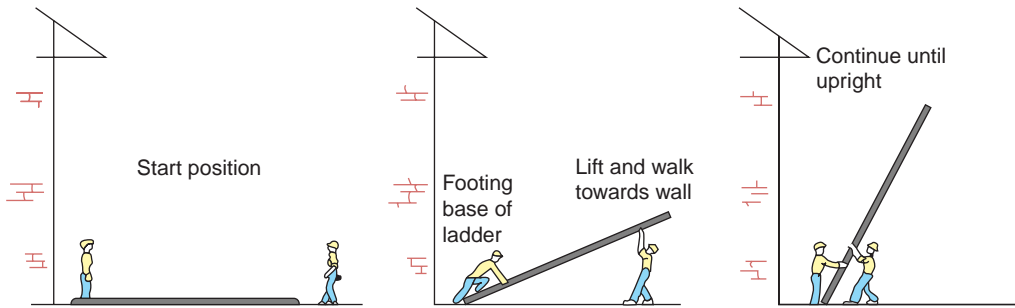

Figure 3.4 Correct procedure for erecting long or extension ladders.
- Extension ladders must be erected in the closed position as shown in Fig. 3.4